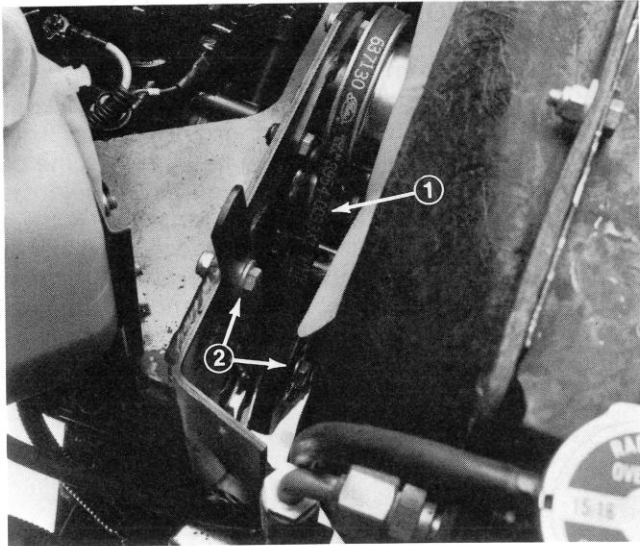

Figure 40
3. Remove two capscrews holding the transmission drive shaft coupler to the engine pulley (Fig. 40). Do not remove the drive shaft from the transmission.
2. Loosen idler pulley bolts (Fig. 40). Put 10 lbs. of force on the top of idler pulley bracket and tighten the bolts.
1. Open hood. Loosen two flange nuts securing idler pulley bracket, slide pulley away from belt and remove belt from top and bottom pulleys (Fig. 40).
2. Install new belt and adjust for proper tension. Tighten flange nuts to secure idler pulley adjustment bracket (Fig. 40).